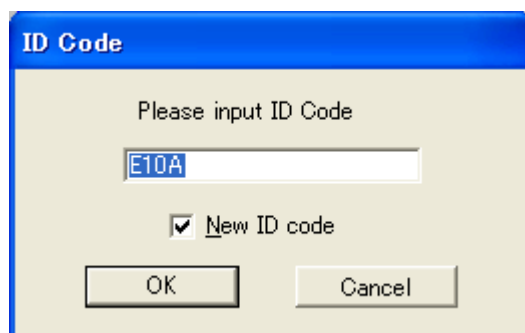

Figure 6 ID Code Request
- (9) A dialog box for inputting the operating frequency appears. Enter **12.50MHz** for **Clock**, then click **OK**.
- (10) A dialog box for inputting the ID code appears. As shown in figure 6, enter **E10A** and check the box next to **New ID code**, then click **OK**.